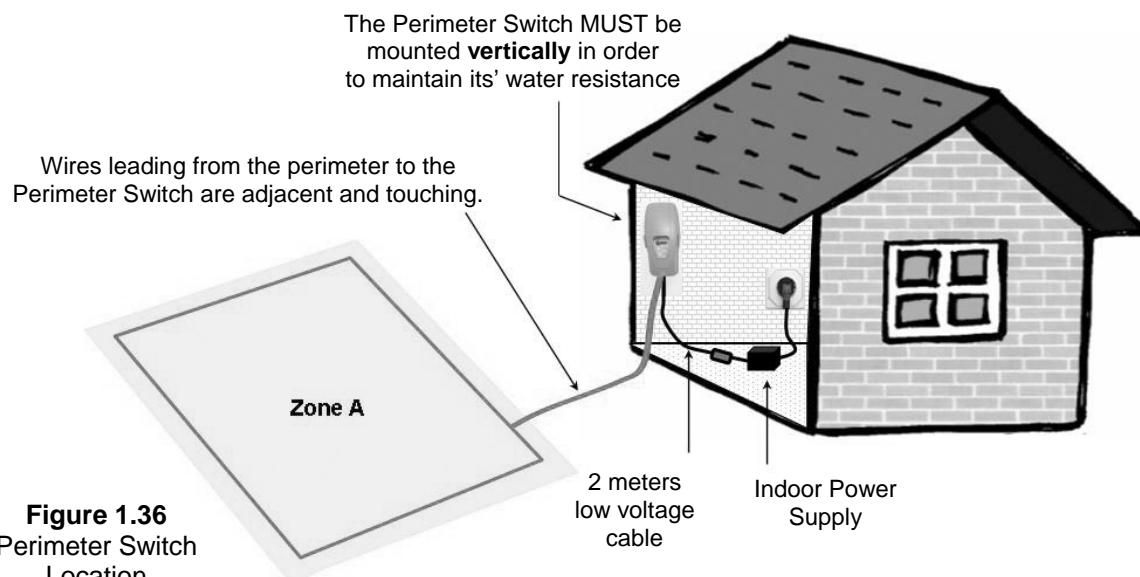

Figure 1.36
- Close to a wall socket** (230V/120V) – the Perimeter Switch is supplied with an indoor power supply (Figure 1.36).
- Pull the two loose perimeter wire leads taut and peg them down to the ground (figure 1.36), adjacent to one another, as you move away from the perimeter and towards the Perimeter Switch location (use the same pegs to attach the two wires from the lawn to the Perimeter Switch location).